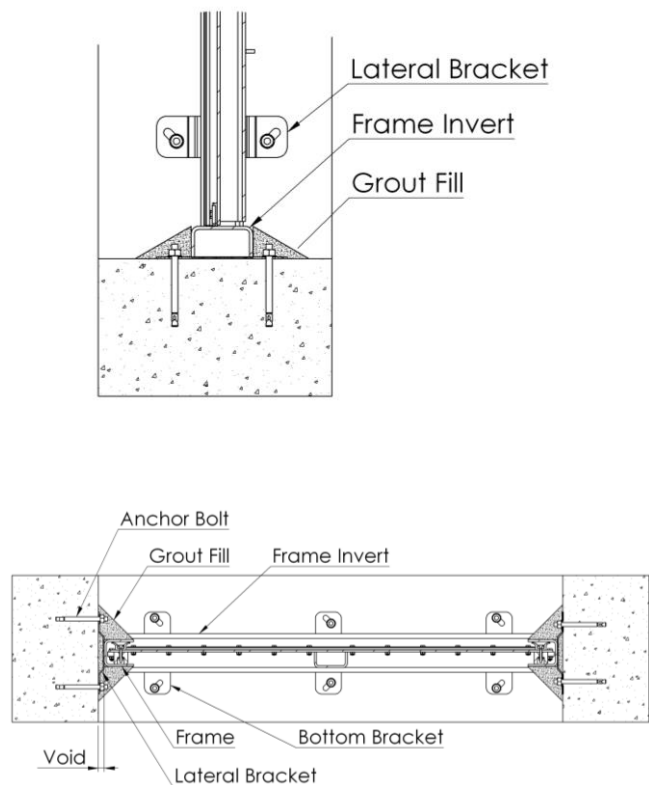

Figure 9
- Make a smooth transition for water flow. Therefore, the grout shall be built-up to the level of the frame as shown in Figure 9